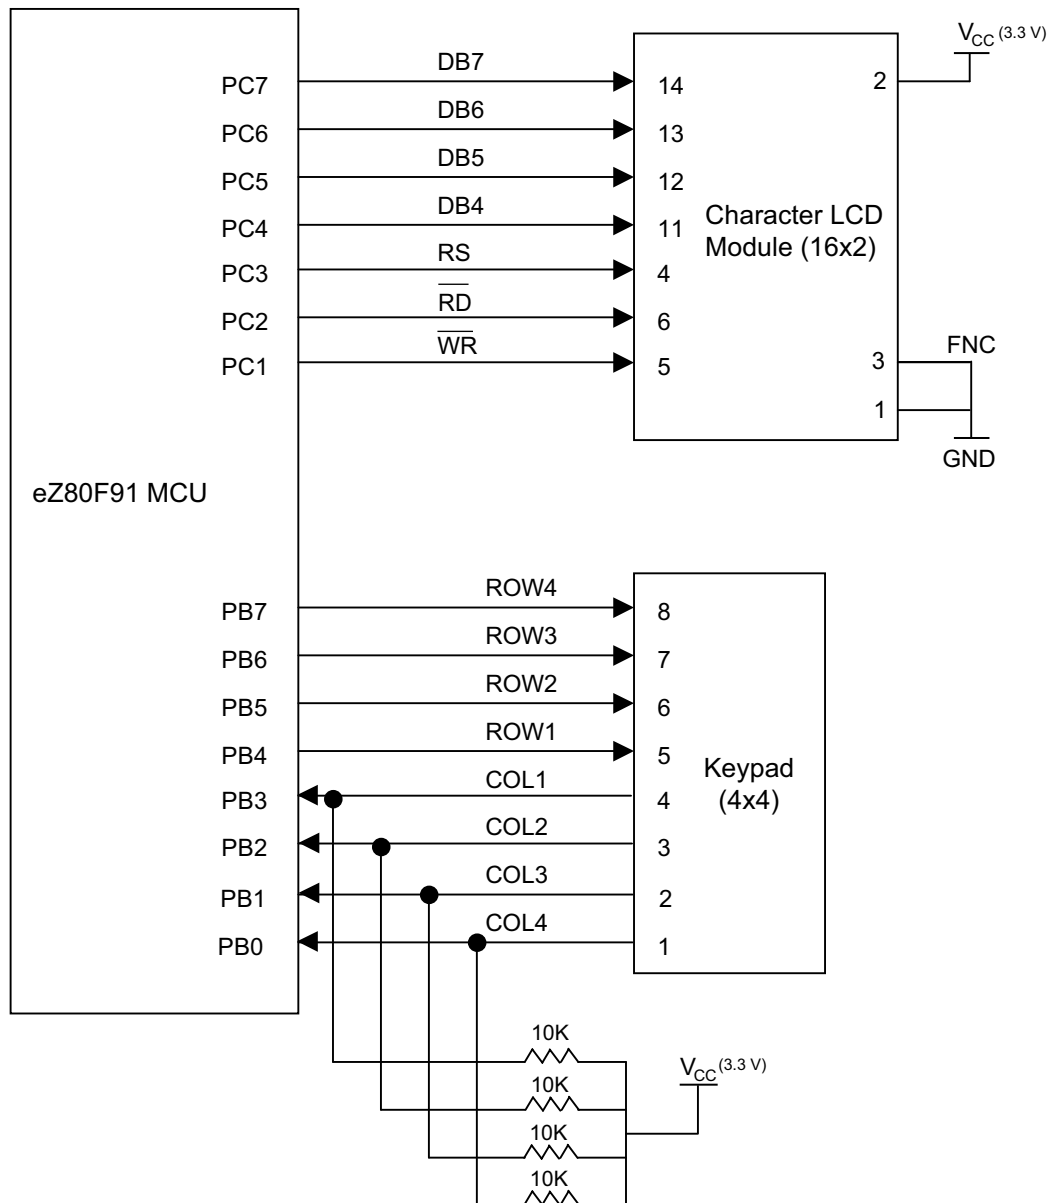
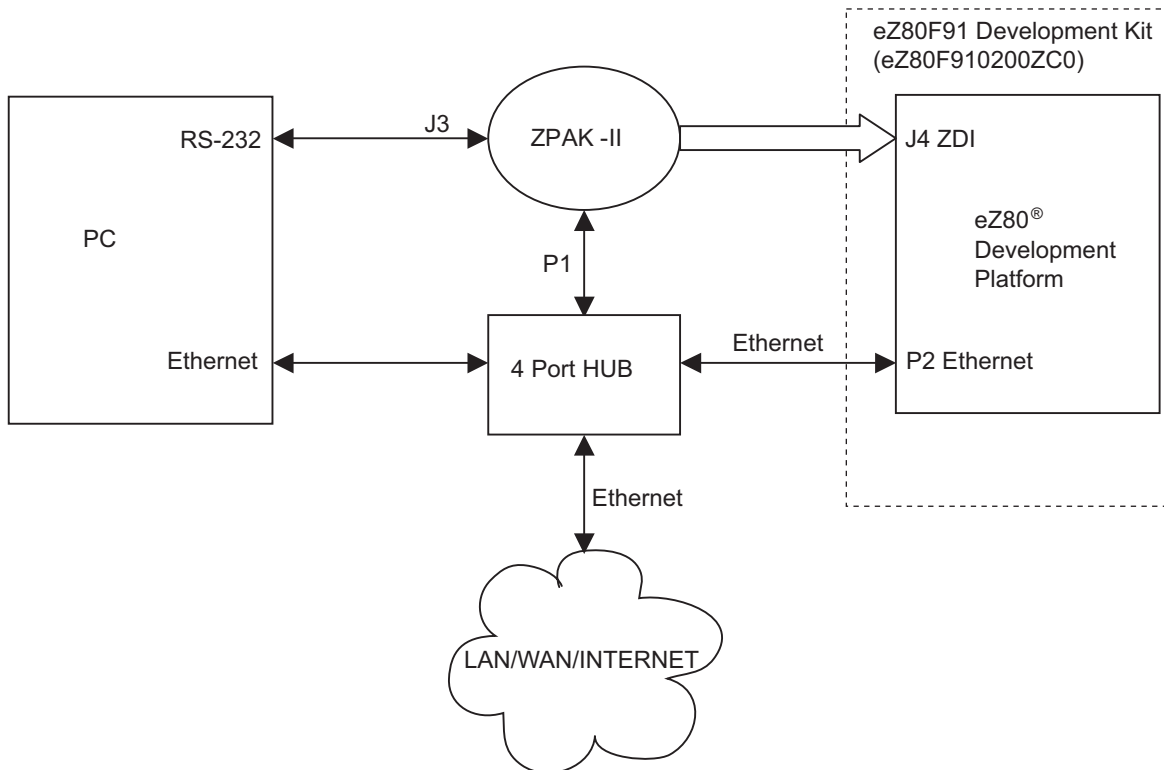

Figure 2. Connection Details Between the eZ80F91 MCU, LCD Module, and Keypad
Figure 5. Connection to Download RZK-RTC Application to eZ80F91 MCU
Port C of the eZ80F91 MCU is connected to the Character LCD module that displays the time and date. Port B of the eZ80F91 MCU is connected to the keypad that scans the keys continuously. The columns of the keypad are pulled up with 10-K resistance, making them HIGH normally. Figure 2 on the following page contains the details of this connection.
1. Connect the eZ80F91 Development Kit, ZPA-KII, and the PC as shown in Figure 5.
Figure 5 illustrates the connection diagram between a PC, LAN/WAN, and the eZ80F91 Development Kit. Figure 2 illustrates the connection diagram between the eZ80F91 MCU, the Keypad and the LCD module.
2. Connect the eZ80F91 Module to the Keypad and Character LCD Module as shown in Figure 2 on page 4.